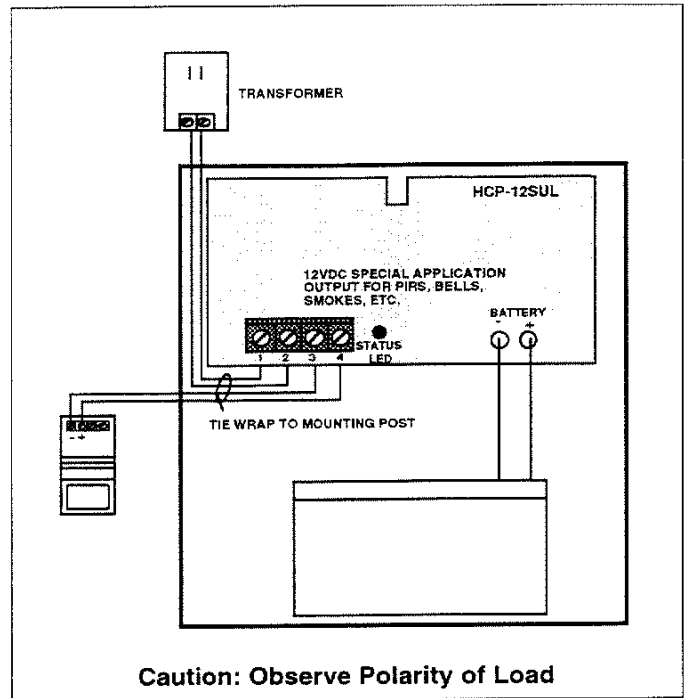

Figure 1
3. Open the power supply and remove the required knockouts to install the wiring, as detailed in Figure 1.